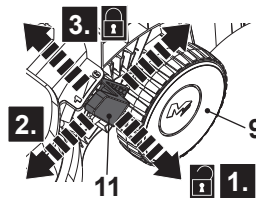

Fig. 14
1. Pull the lever (11) towards the rear wheel (9) (Fig. 14, step 1).
2. Move forward or backward to adjust the cutting height (Fig. 14, step 2).
3. Release the lever (11) and ensure it engaged in the slot properly (Fig. 14, step 3).